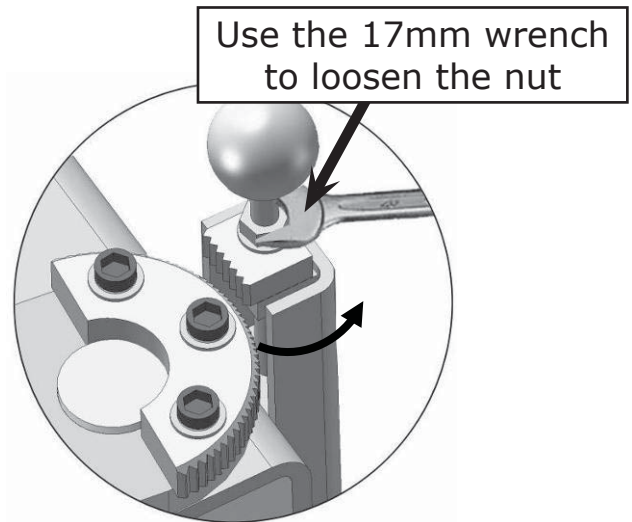

Fig. 23
2. Lower the carriages down to the lowest position. Then use a 17mm wrench to loosen the nut on the arm lock (See Fig. 23).